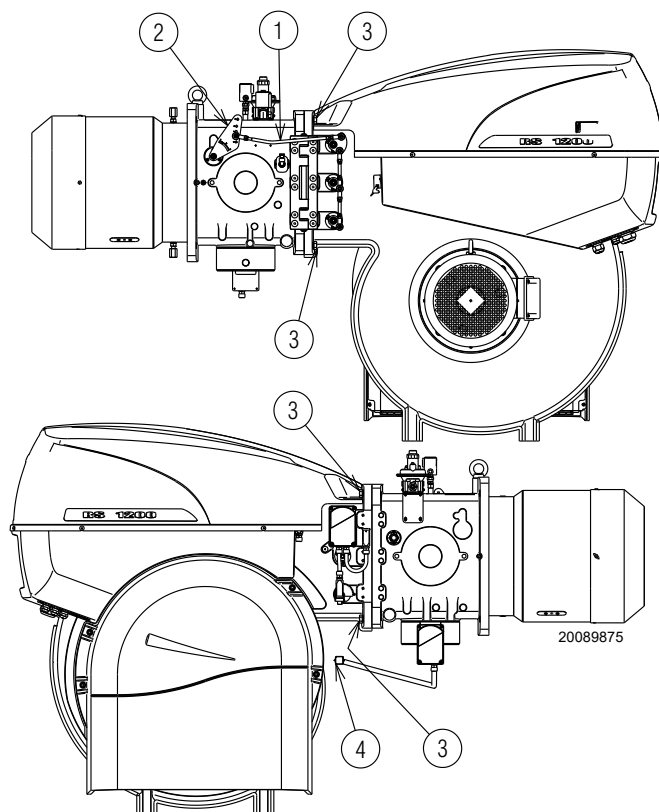

Fig. 33
- Remove the tie-rod 1)(Fig. 33) of the head movement lever, undoing the nut 2).